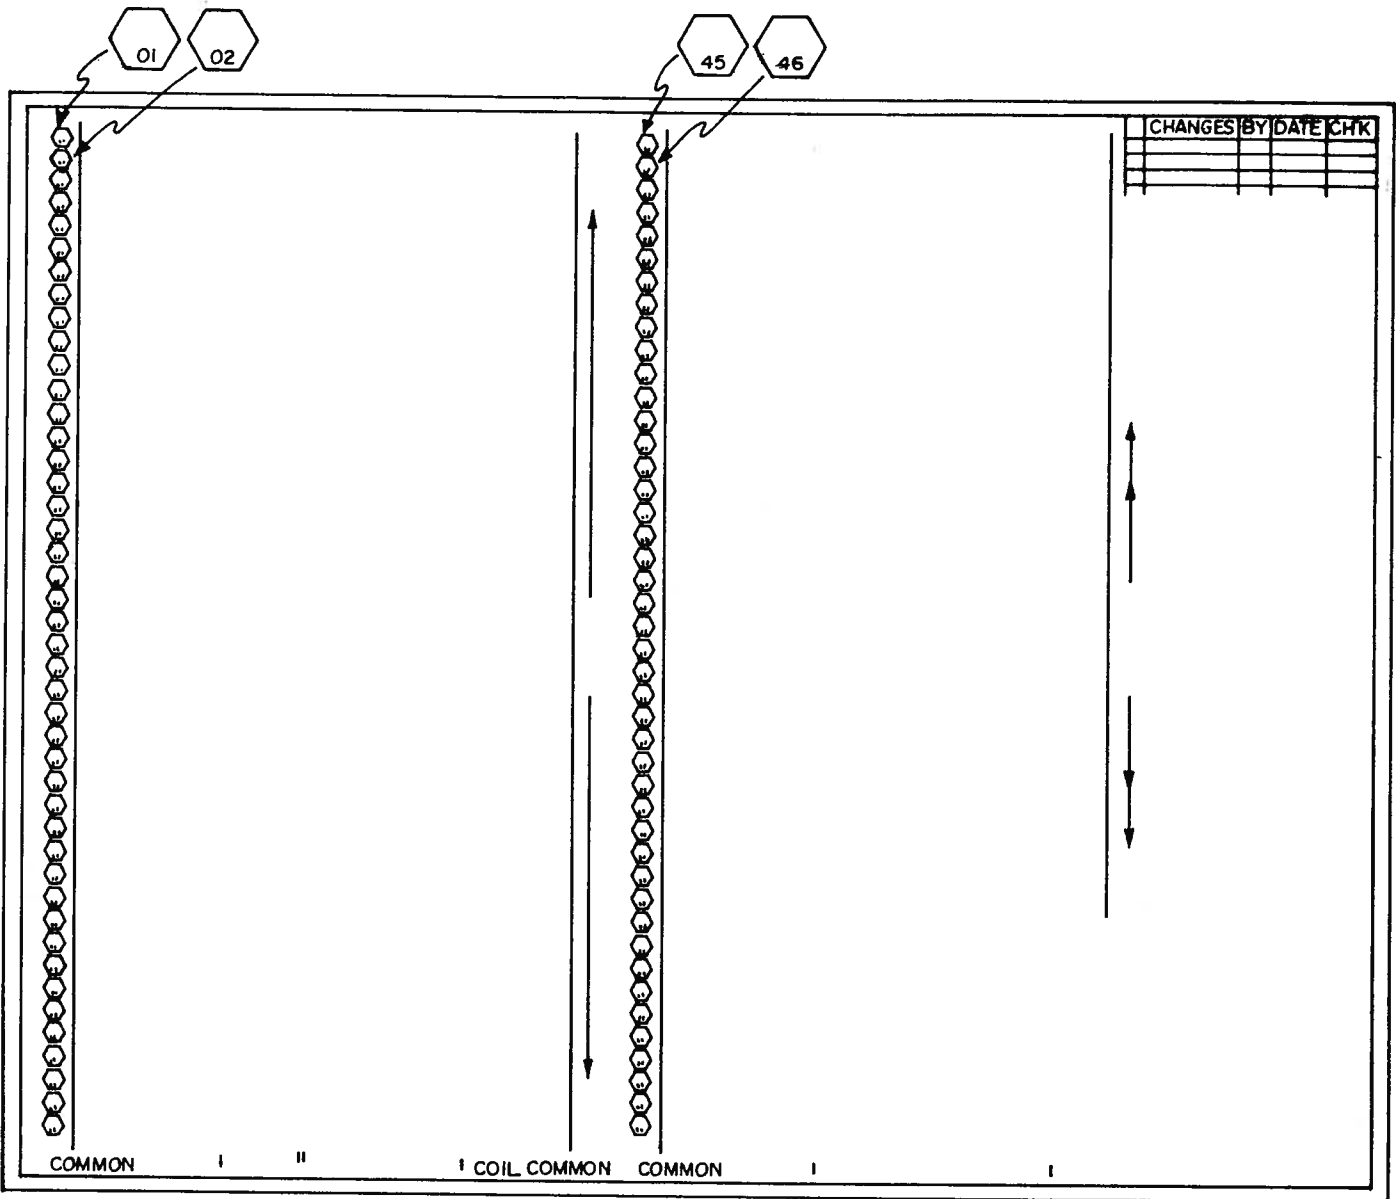

Figure 3-20: Numa-Logic master drawing sheets.
- Master drawing sheets (See Figure 3-20).